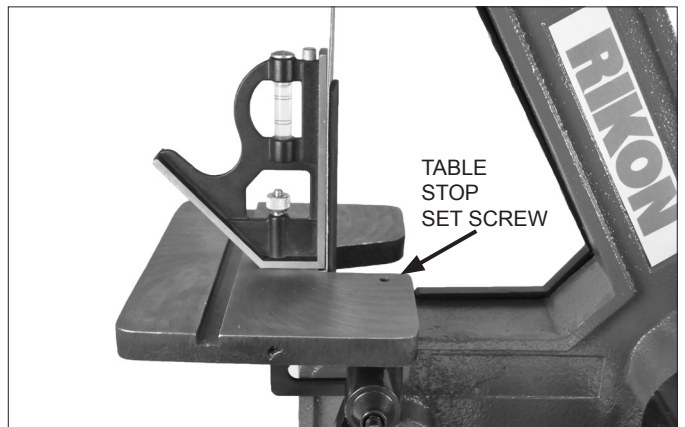

FIG. 26
3. Using a square, protractor or other 90° tool, measure the angle of the table against the Platen (#67). FIG. 26. Once the 90° is setting is found, lock it in place, then adjust the hex Set Screw Stop (#80), that extends under the table.